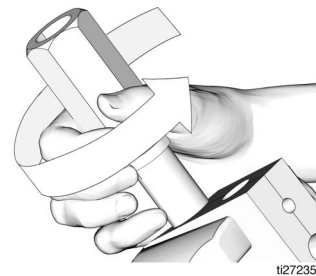

FIG. 3
8. Put the hose sleeve on the hose and hand-turn it counter-clockwise until tightened (FIG. 3).